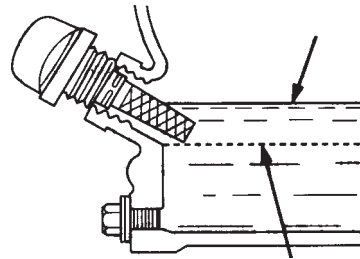

Figure 18. Engine Oil Dipstick (Oil Level)
4. If the oil level is low (Figure 18), fill to the edge of the oil filler hole with the recommended oil type (Table 4). Maximum oil capacity is 400 cc.